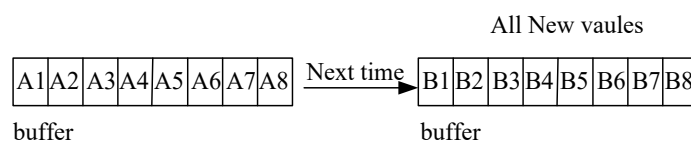

Figure 3-61
1. Assuming setting the READING AVERAGE TIME = 8, AVERAGE METHOD:FIXED, readings sampling is that the device clears all of the old samples (A1 ~ A8) in the buffer and saves the new samples (B1 ~ B8), then average them in repetition as Figure 3-61 shows.